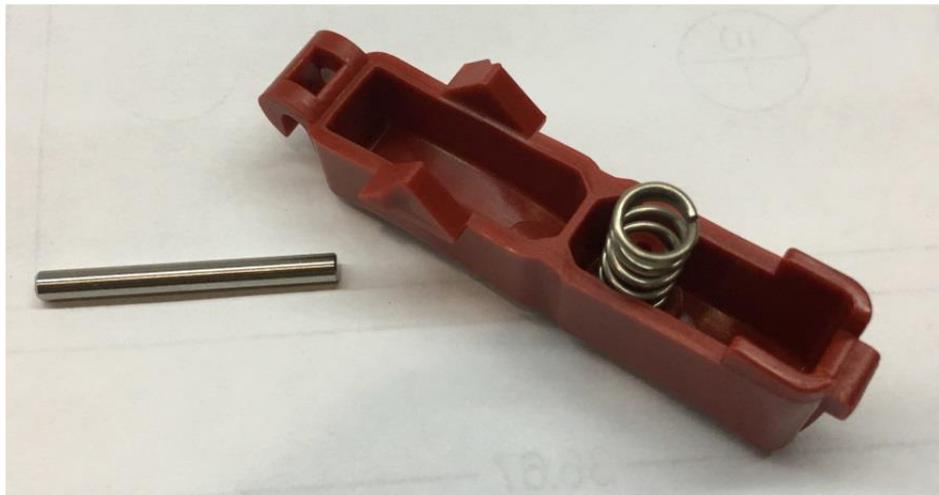
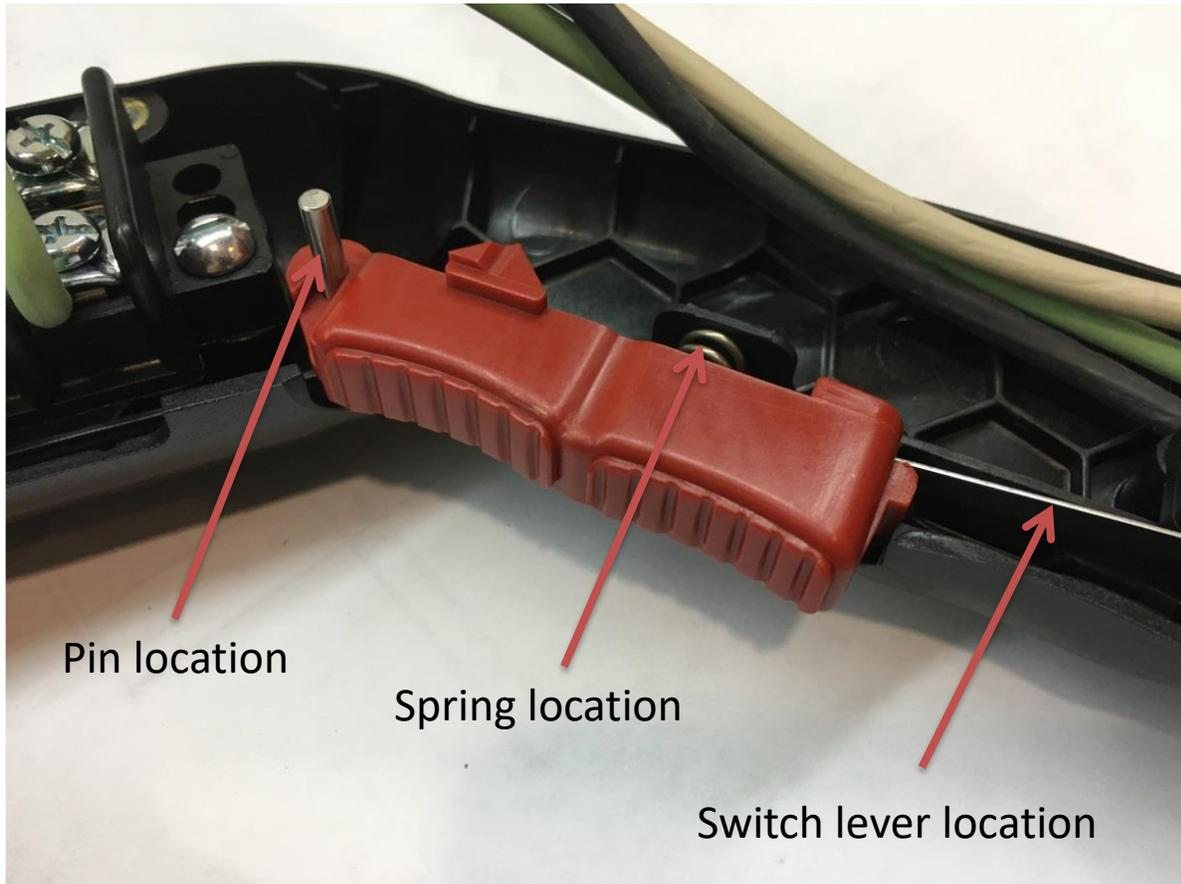

Fig.6-20 Actuator Spring Location
Fig.6-21 Actuator / Trigger Assembly
2. Remove (2) #4-40 x 1/2" pan head screws from switch, then remove switch from handle.
3. See Fig.6-20 Actuator Spring Location and Fig.6-21 Actuator / Trigger Assembly for proper assembly of actuator to switch.
4. Replace switch and install (2) #4-40 x 1/2" screws and tighten.
2. Remove (2) #10-32 x 5/8" round head machine screw from terminal block then remove terminal block from handle.
3. Replace terminal block and install (2) #10-32 x 5/8" screws and tighten.
4. Follow steps 10-12 from 6.22.1 above. If actuator, pin, and spring need to be reinstalled, see Fig.6-20 Actuator Spring Location and Fig.6-21 Actuator / Trigger Assembly.